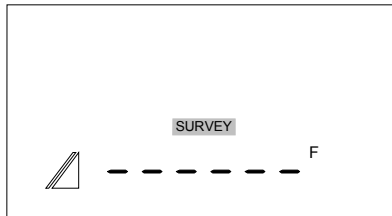

Figure 21 Initial Survey Measurement Screen
2. Press the **SURVEY MODE button** to activate the Survey Mode. The LCD screen on the rear panel should look similar to Figure 21.